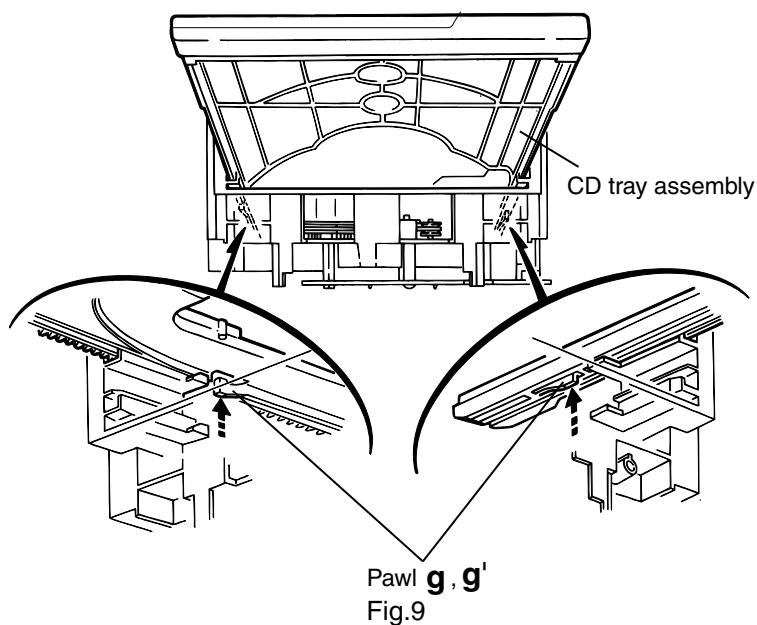

Fig.9
15. At the position where the CD tray assembly has stopped, pull out the CD tray assembly while pressing the two pawls "g and g'" on the back side of CD tray assembly(See Fig.9). In this case, it is easy to pull out the assembly when it is pulled out first from the stage CD tray assembly.